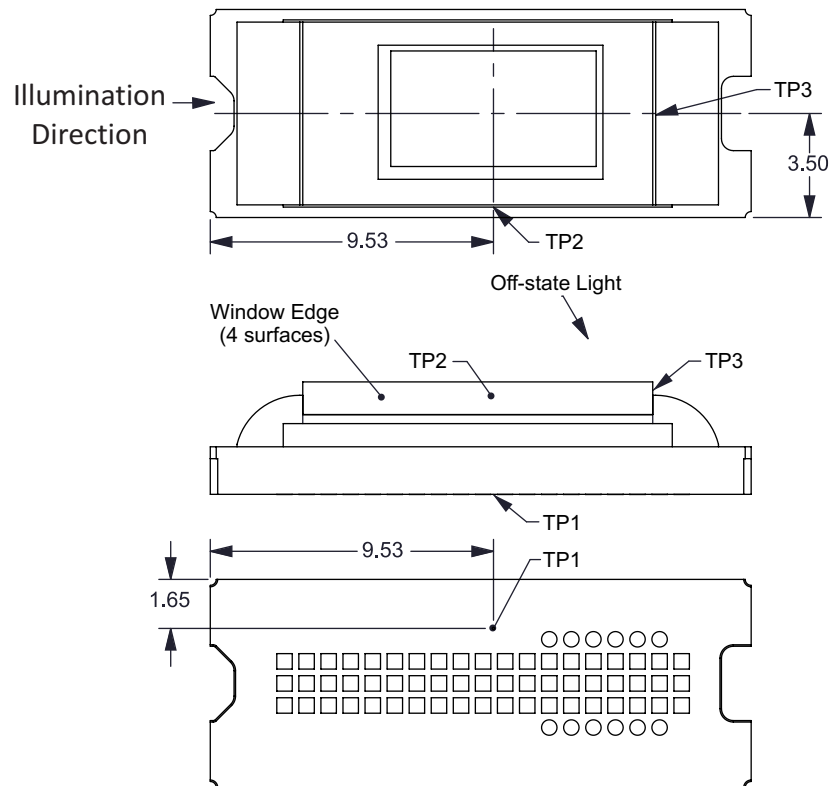

Figure 18. DMD Thermal Test Points
- T_{CERAMIC} = Measured ceramic temperature (°C), TP1 location in Figure 18
- Q_{ARRAY} = Total DMD power; electrical plus absorbed (calculated) (W)
- $Q_{\text{ELECTRICAL}}$ = Nominal DMD electrical power dissipation (W)
- SL = Measured ANSI screen lumens (lm) (3)